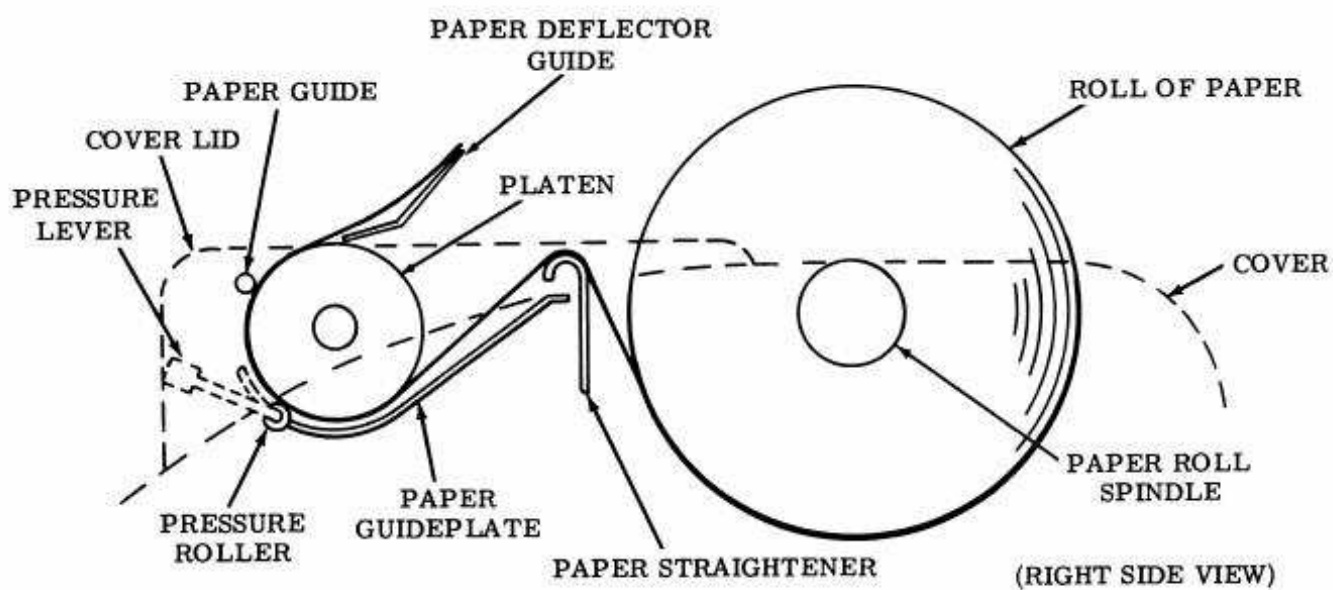

Figure 6 - Paper Threading — Friction Feed
3.11 Figure 6 illustrates paper threading for a friction feed typing unit.